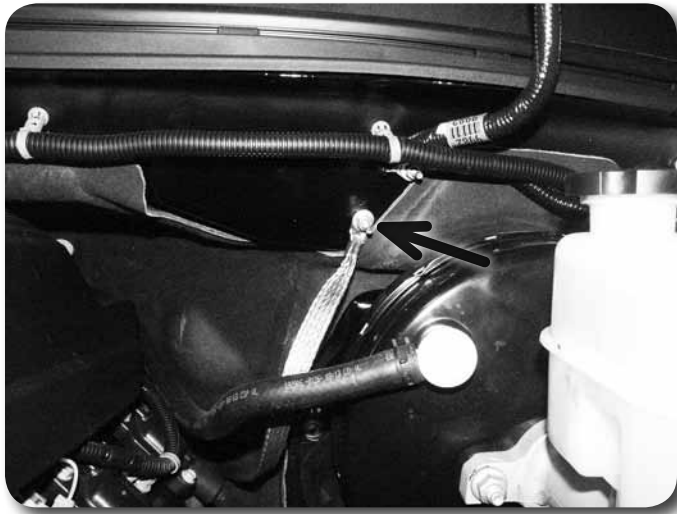

Figure 10
15. Disconnect the ground wire from the driver's side firewall **Figure 10**. Save the mounting nut.